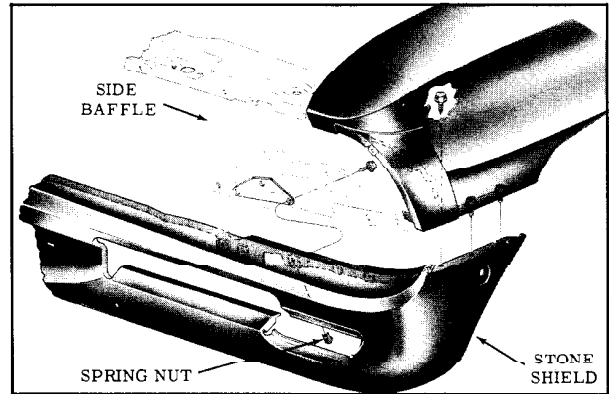

Fig. 11-8 Stone Shield Attachment
3. Remove fender to stone shield attaching screws. (Fig. 11-8)